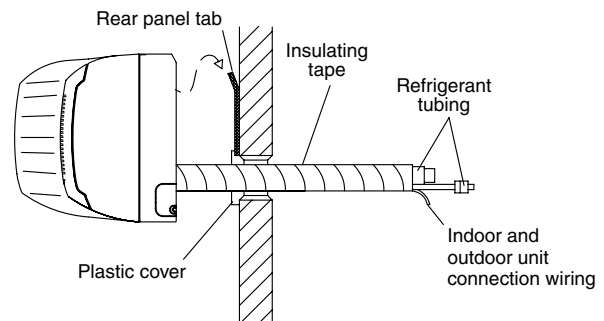

Fig. 3-149
- (1) Shape the refrigerant tubing so that it can easily go into the hole. (Fig. 3-149)
- (2) After performing a leak test, wrap both the refrigerant tubing and drain hose together with insulating tape. The drain hose should be positioned below the refrigerant tubes, and should be given sufficient space so that no strong tension is applied to it.
- (3) Push the wiring, refrigerant tubing and drain hose through the hole in the wall. Adjust the indoor unit so it is securely seated on the rear panel.